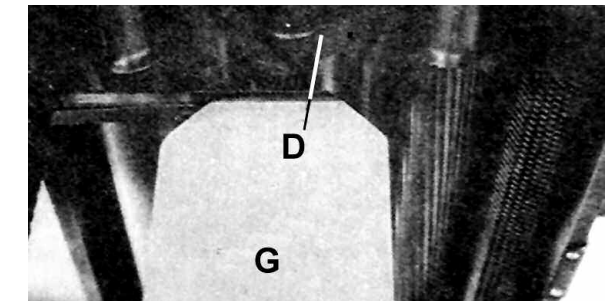

FIGURE 25
3. Place the gauge block (G) on the table directly underneath the cutterhead, as shown in Fig.25. Using a 0.5mm (0.02") Feeler gauge (D) placed on top of the gauge block, raise the work table until the knife just touches the feeler gauge when the knife is at its lower point. Do not move the work table any further until the outfeed roller is adjusted.